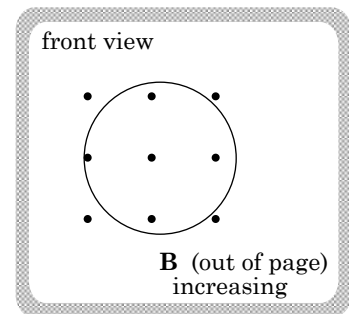

FIGURE 17.11
a.) The external \mathbf{B} -field in Figure 17.11 is increasing out of the page, which means the external flux is increasing. The only way to *oppose* an increasing *magnetic flux* is to produce a second magnetic flux that subtracts from the original flux. In other words, we need a current that will produce a \mathbf{B} -field in the direction opposite the existing \mathbf{B} -field, or *into the page*.